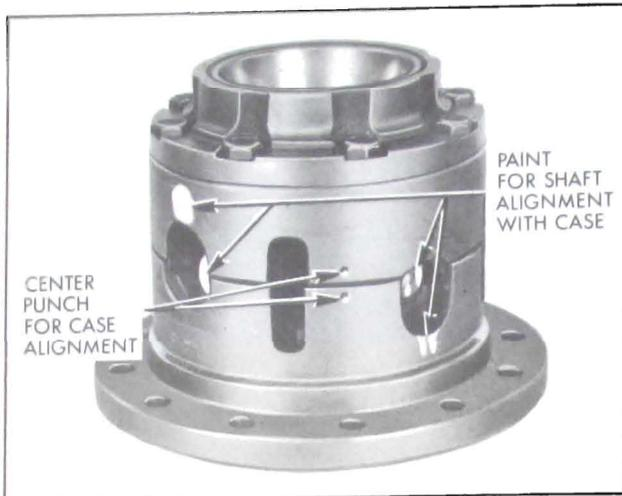

Figure 6-37—Alignment Marks
4. Mark flange half and cover half of case with a center punch to provide alignment when assembling. If cross shafts are to be reused, see that they have a paint daub on one end of each shaft matching a similar paint daub on the case to assure assembly in proper location. See Figure 6-37.